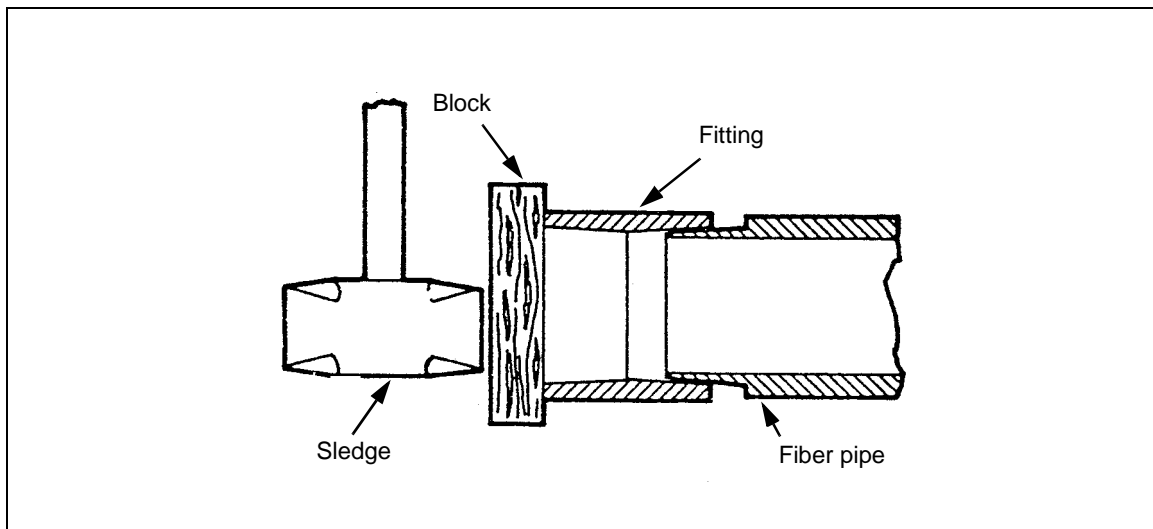

Figure 6-50. Joining Fiber Pipe
6-99. Join fiber pipe and fittings with a friction joint (*Figure 6-50*), as follows:
Step 4. Tap the block lightly with a sledge (*Figure 6-50*) to drive the pipe and fitting together until the fitting butts against the taper shoulder. The driving produces enough heat to fuse a watertight joint of the pipe and fitting.